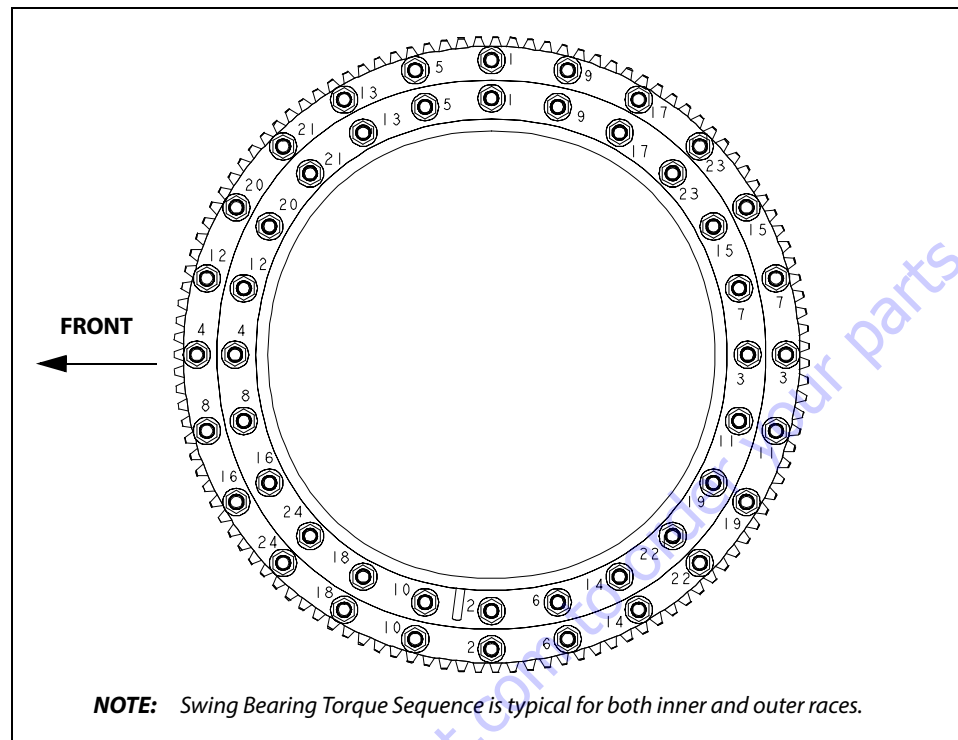

Figure 3-52. Swing Bearing Torque Sequence
3. Refer to the Torque Sequence diagram as shown in Figure 3-52., Swing Bearing Torque Sequence. Clean any residue off the new bearing bolts, then apply a light coating of High Strength Threadlocking Compound and install the bolts and washers through the frame and outer race of the bearing. Tighten the bolts to an initial torque of 190 Ft. lbs. (260 Nm) w/High Strength Threadlocking Compound.
8. Following the Torque Sequence diagram shown in Figure 3-52., Swing Bearing Torque Sequence, tighten the bolts to a torque of 190 ft. lbs. (260 Nm) w/Thread Locking Compound.